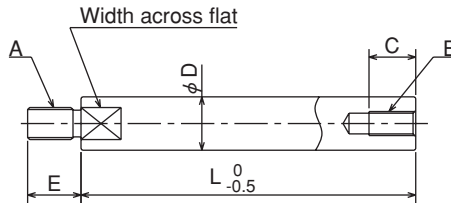

Fig. 20
- Keep the dimension D in Fig. 20 for the draw bar and a material with the tensile strength 380MPa (38kgf/mm²) or more must be used.